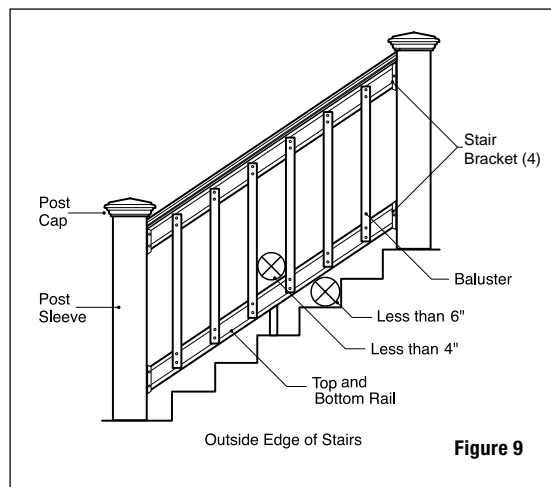

Figure 9
Step 6 Position the bottom rail between posts and center. Check building code requirements for maximum spacing on a staircase, typically less than 6". A 6" ball cannot pass through the triangle formed by the bottom rail, tread and riser (fig. 9). Mark the location of the bracket on both posts. Remove rail. Mark the screw locations and pre-drill through the post sleeve only using a 1/4" drill bit. Attach each bracket to the post with two 2" long screws.
Step 10 Traditional, Baroque and Arc balusters Place a baluster on the rails on-center of one of the marked positions (4-1/2" on-center or 7-1/2" on-center for glass). Make sure the baluster is plumb. Using the baluster as a guide, drill 9/64" holes in the top and bottom rails. Drill and attach baluster with the screws provided. Use a 2x4 spacer block to space next baluster. Drill and attach each baluster to the top and bottom rails with the screws provided. Using a pair of clamps to hold baluster in place while fastening will make this step easier (fig. 9).